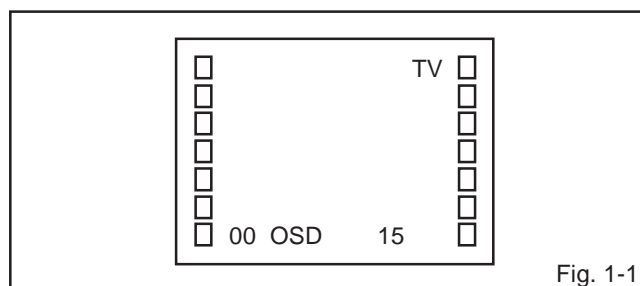

Fig. 1-1
2. Press the VOL. DOWN button on the set and the Channel button (9) on the remote control simultaneously to appear the adjustment mode on the screen as shown in Fig. 1-1.
7. Activate the adjustment mode display of Fig. 1-1 and press the channel button (03) on the remote control to select "VIF VCO".
3. Activate the adjustment mode display of **Fig. 1-1** and press the channel button **(02)** on the remote control to select "RF AGC".
4. Activate the adjustment mode display of **Fig. 1-1** and press the channel button **(01)** on the remote control to select "CUT OFF".
4. Activate the adjustment mode display of **Fig. 1-1** and press the channel button **(10)** on the remote control to select "R.BIAS".
2. Activate the adjustment mode display of **Fig. 1-1** and press the channel button **(05)** on the remote control to select "H PHASE".
2. Activate the adjustment mode display of **Fig. 1-1** and press the channel button **(07)** on the remote control to select "V SHIFT".
2. Activate the adjustment mode display of **Fig. 1-1** and press the channel button **(06)** on the remote control to select "V SIZE".
2. Activate the adjustment mode display of **Fig. 1-1** and press the channel button **(13)** on the remote control to select "BRIGHTNESS".
1. Activate the adjustment mode display of **Fig. 1-1** and press the channel button **(14)** on the remote control to select "CONTRAST".